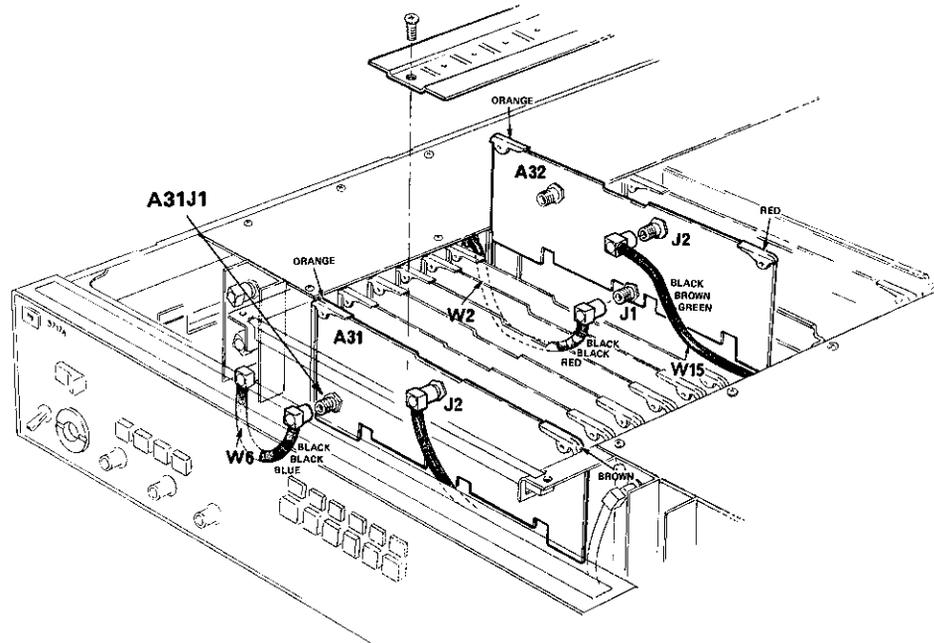

Figure 4-7 Internal Location of A31J1
4. Disconnect the blue coded cable (W6) from A31J1 as shown in Figure 4-7, and connect a 75 ohm Conhex to BNC cable to A31J1, and to the Network Analyzer's "B" INPUT via the 75 Ohm Feedthrough. Reconnect the line cord to the 3717A and switch ON.
27. Switch the 3717A OFF and reconnect W6 to A31J1 – see Figure 4-7. Replace the top cover and if fitted, the two rear feet.